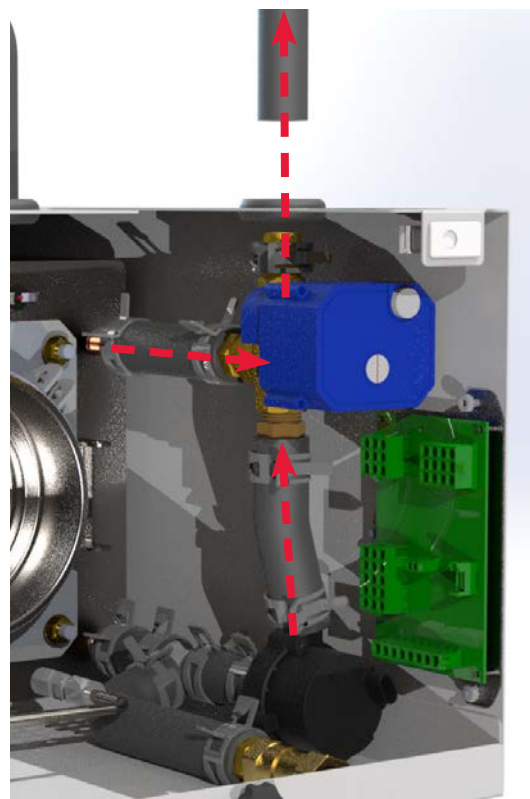

Figure 49
5. Remove the hose from the defective valve as shown in Figure 49.